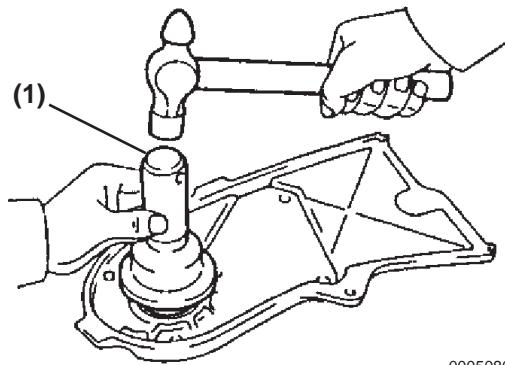

Figure 5-53
3. Using a suitable tool (**Figure 5-53, (1)**) tap in a new oil seal until its surface is level with the end surface of oil seal retainer.